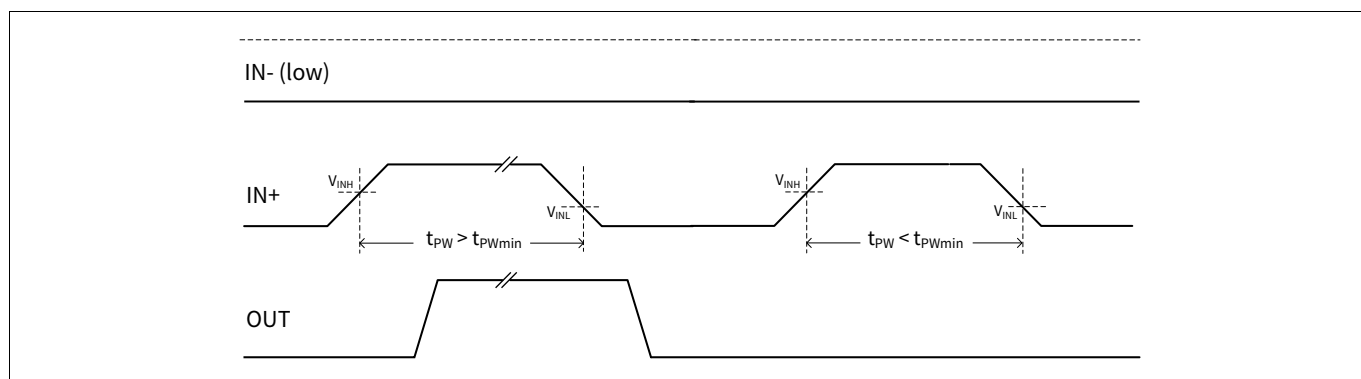

**Figure 6** Rise and fall times
**Figure 6** illustrates the rise and fall time as observed at the capacitively loaded output.